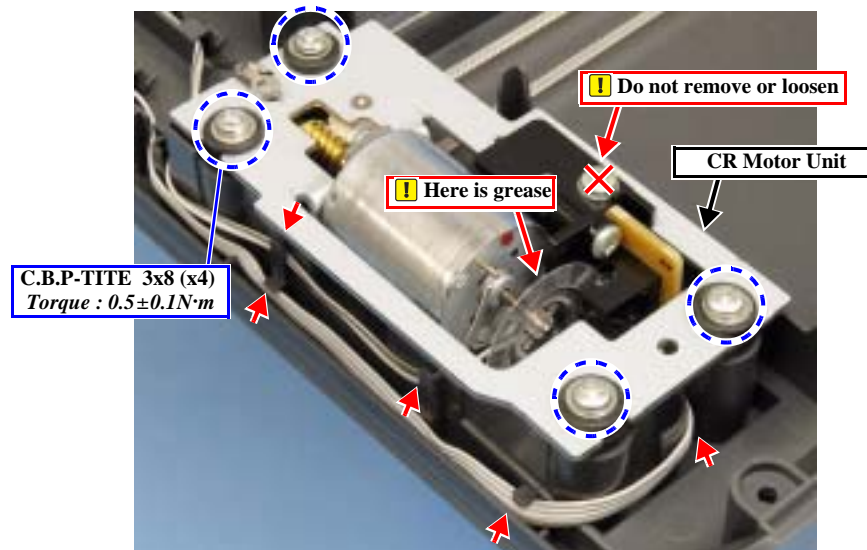

Figure 4-53. CR Motor Unit 2
- Do not remove or loosen the screw marked with X for the CR Motor Unit shown at right. Remember that the CR Motor Unit must be replaced with a new one if the encoder is shifted from the correct position. (Fig. 4-53)
- Route the harnesses as shown. (Fig.4-52 , Fig.4-53)